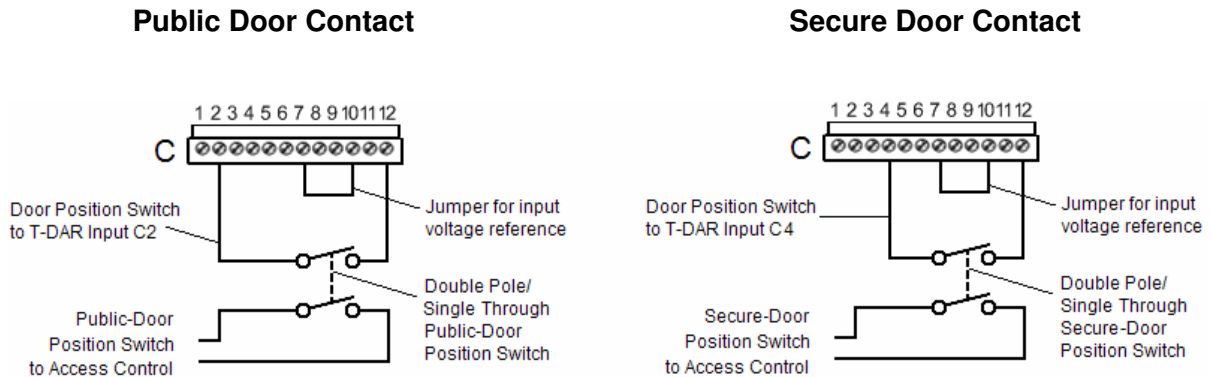

Figure 15 - Typical Configuration
The T-DAR T-2010 control units are equipped with four relays on the General 1 connector plus one relay on each of the Portal connectors. These relays may be used to signal various alarm conditions based on user configurable options in the user interface. All of these relays are single pole/single throw, and are normally open. Various degrees of customization are possible through coordination with the manufacturer. Refer to Figure 15 for detailed examples.
5. Refer to Figure 15 for detailed examples of configuration.